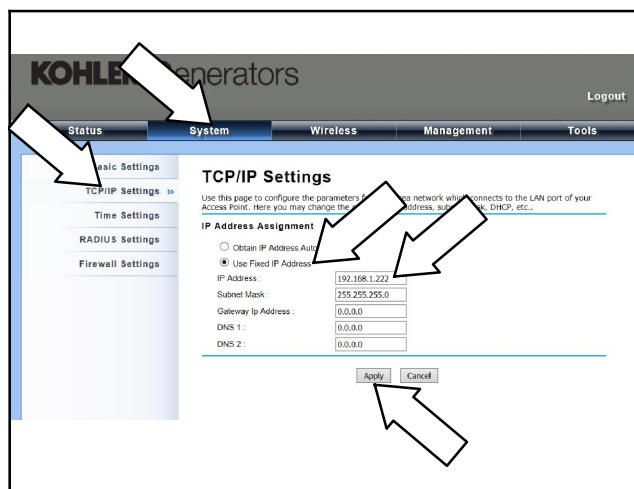

Figure 28 Changing the IP Address
- 22.2 Click on System. See Figure 28.